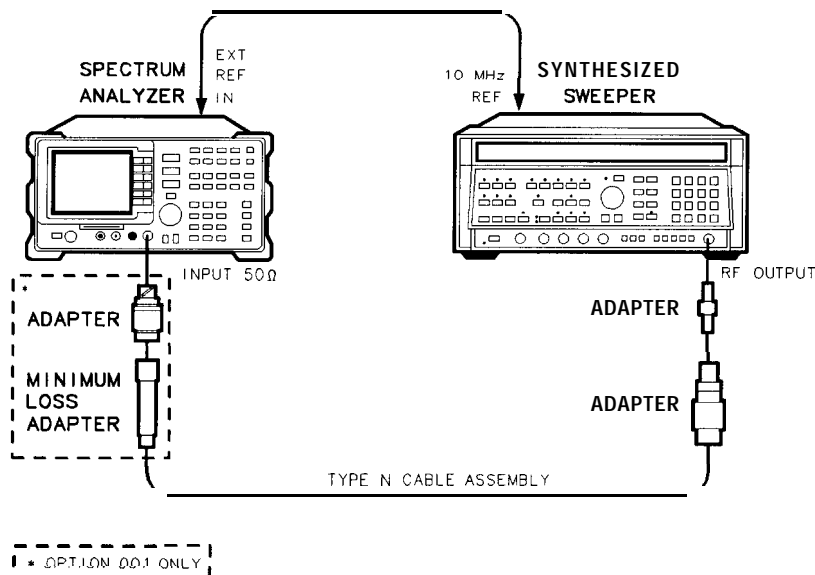

Figure 1-2. Frequency Readout Accuracy Test Setup
1. Connect the equipment as shown in Figure 1-2. Remember to connect the 10 MHz REF OUT of the synthesized sweeper to the EXT REF IN of the spectrum analyzer.